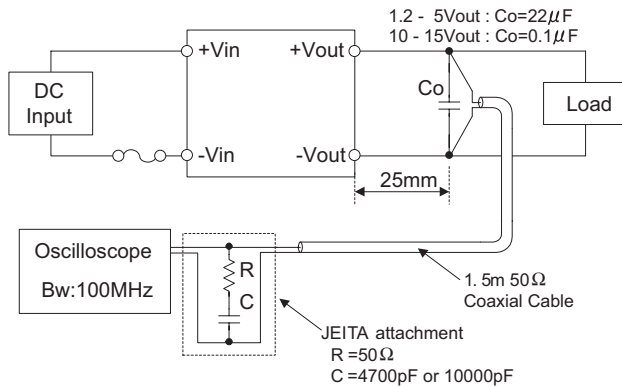

Fig.3.6 Measuring method of ripple and ripple noise
■Ripple and ripple noise are measured, as shown in the Fig.3.6, by connecting Co and JEITA attachment.